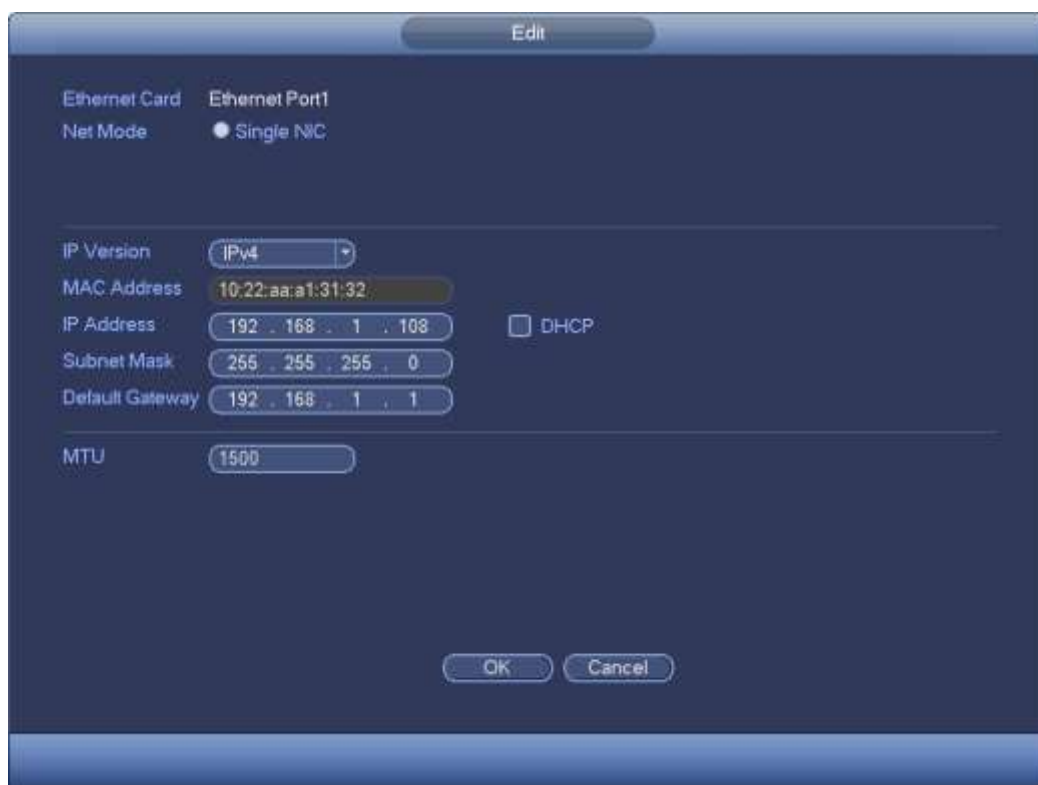

Figure 4-25
Step 2 Click , device display edit interface. See Figure 4-25.